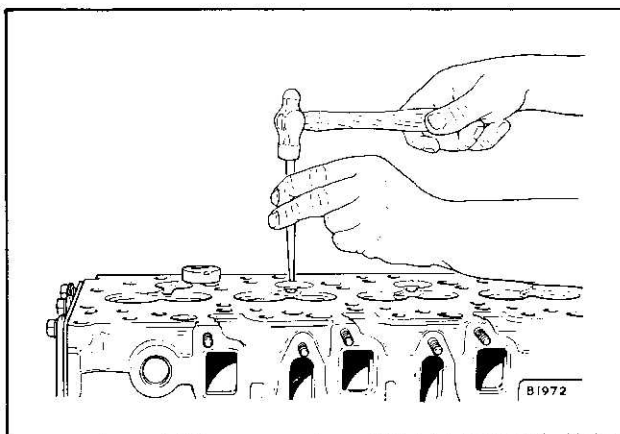

Fig. 8
4. Secure the insert by expanding the expansion plug with a suitable tool and hammer, Fig. 8.